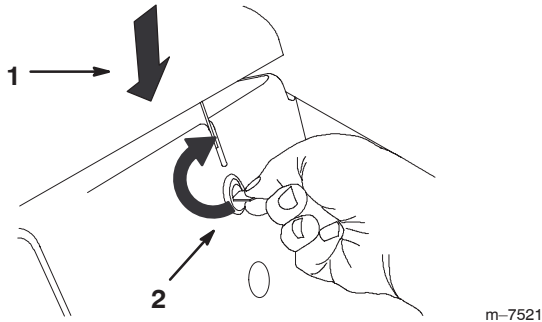

Figure 32
1. Push down on the hood while using a coin or screwdriver to turn the hood latch clockwise (Fig. 32).